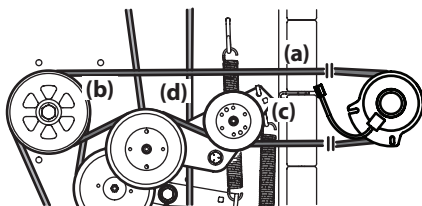

Figure 44
- Remove the PTO belt (a) from the deck as instructed in the Deck Removal section then remove it from around the PTO clutch. See Figure 44.
- Route the PTO belt (a) as shown in Figure 44.
- After routing the belt around the PTO pulley (b), use a 1/2" drive in the idler pulley bracket (c) and turn towards the right of the mower to finish routing the belt around the idler pulley (d). See Figure 44.